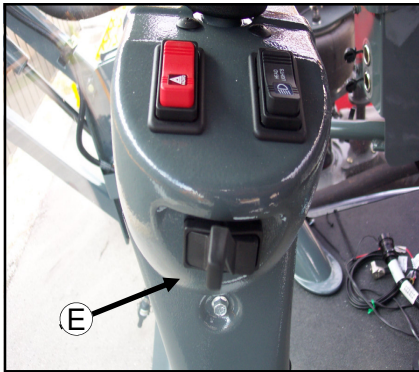

FIG. 18-2
**TURN SIGNALS**– To activate the front turn signals (fig. 19-3) and the rear turn signals (fig. 19-4 and 5), move the turn signal lever (fig. 18-2, item E) forward, away from the operator, to signal a right turn and back, toward the operator, to signal a left turn. Steering column– mounted turn signal indicators will correspondingly flash when either turn signal is activated. The turn signal switch is not a self– centering switch; you must return it to the “OFF” position by